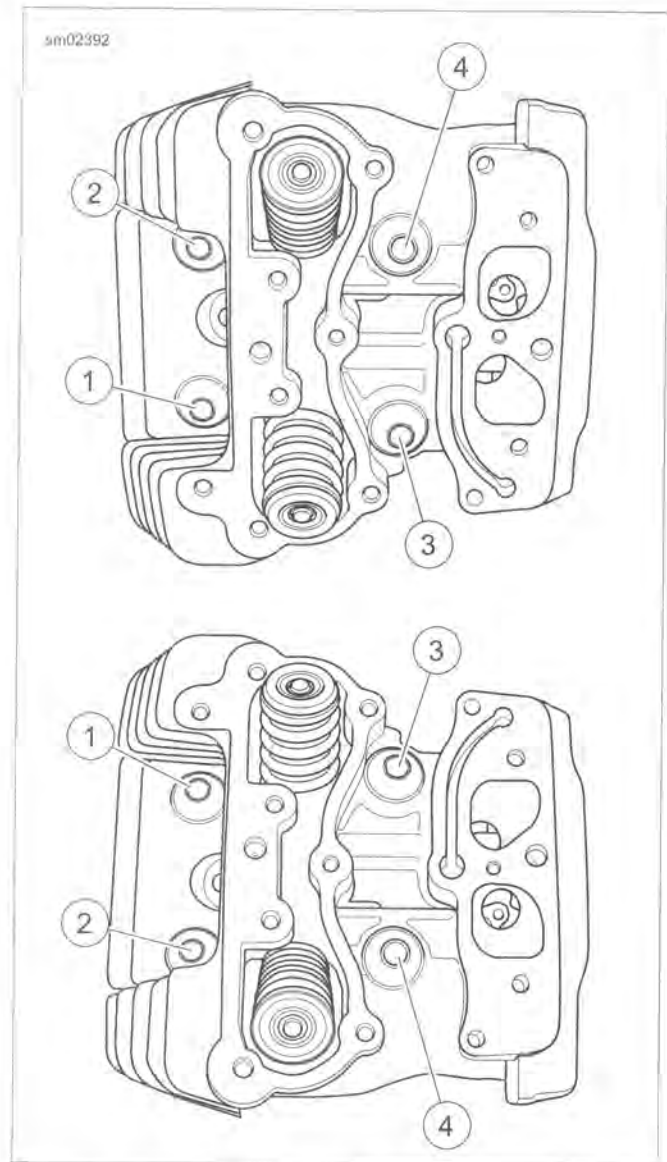

Figure 3-20. 1/4 Turn Head Bolts in Sequence
3. See Figure 3-20. Remove cylinder headbolts: